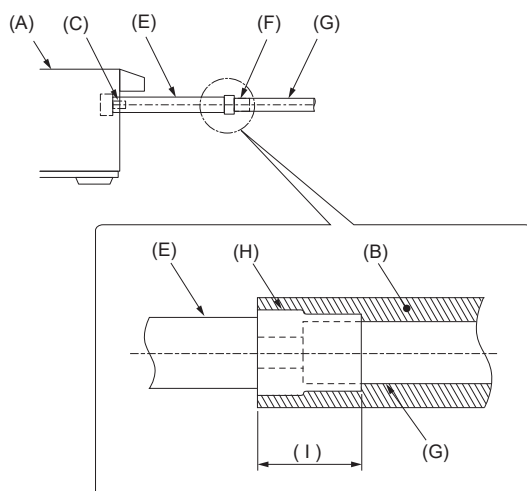

Fig. 5-3
- Connect drain pipe directly to drain piping connecting part (socket side) of drain hose. (Fig. 5-3)
- Be sure to connect the drain hose to the indoor unit side as shown in the illustration on the left. Be sure to connect the drain hose connecting part using adhesive of polyvinyl chloride family to prevent leakage. (Fig. 5-3)